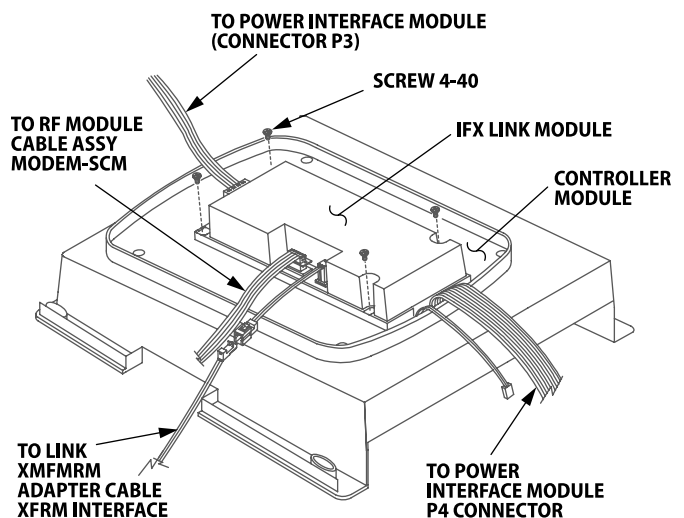

Figure 10
2. Use four #4-40 machine screws to attach the LINK Interface Board module to the bottom of the control module (see Figure 10).